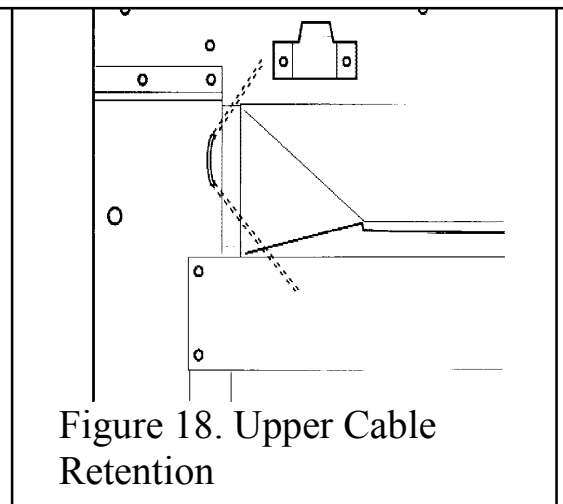

Figure 18. Upper Cable Retention
5. The convection box has two holes at each side of the convected air opening. Insert one end of each cable (one cable each side) from the back through the lower of the two holes and return the end through the upper of the holes. See figure 18. Give the cables a pull so that they grip against the convection box flanges.